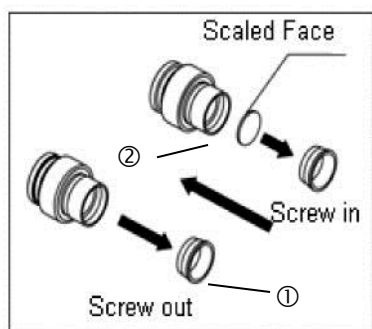

Fig. 7
Installing or Removing the Reticle (Fig. 7)
Unscrew the reticle retaining ring ① from the eyepiece (see Fig. 7).